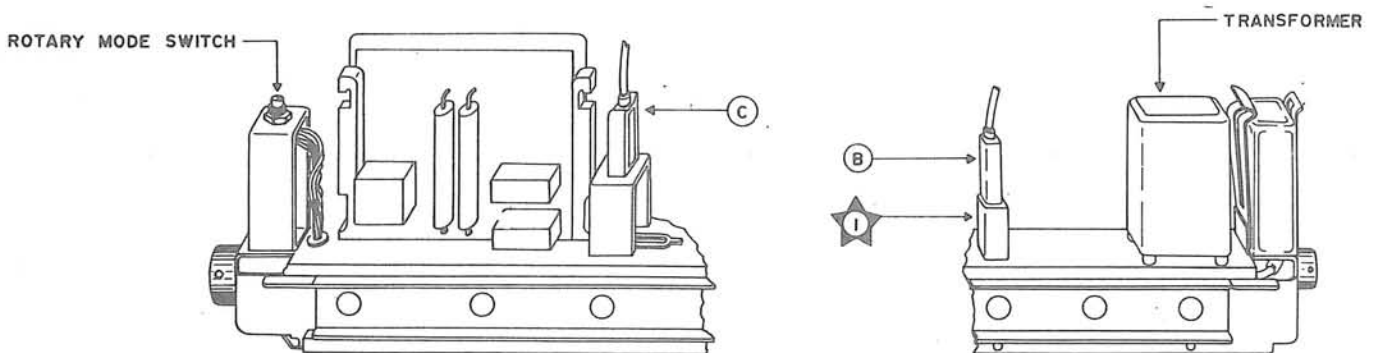

Figure 5-15. Printer 1A2, Location of Test Points
| Figure 5-15 ① | 1. Motor does not operate | Absence of input power | Turn equipment off. Gain access to motor. Remove connector from jack 1A1J5 (test point #1) and turn equipment on. Connect a-c multimeter between 1AJ5-A and 1AJ5-B and read 115 vac. If reading is incorrect, refer to Table 5 (Appendix). If readings are correct, continue with Symptom 2. |